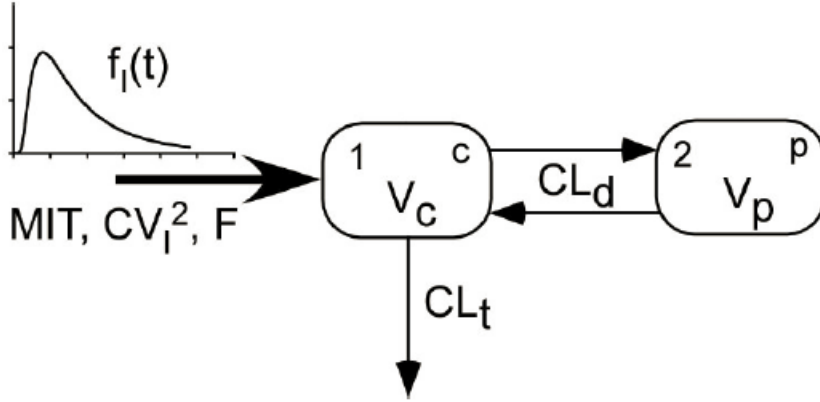

Figure 1. Two compartment disposition model with IG function input
This example illustrates the use of the inverse Gaussian (IG) function to model the oral absorption process of a delayed release compound. It is assumed that the plasma drug concentration following oral administration of the drug can be decomposed into an independent input process (representing dissolution, transit and absorption processes) followed by the disposition process. It is further assumed that the parameters of a linear two compartment model used to describe the disposition process have been estimated following intravenous drug administration to an individual. The model shown in Figure 1 will then be used to describe the plasma kinetics of an oral formulation of the drug delivered to the individual.